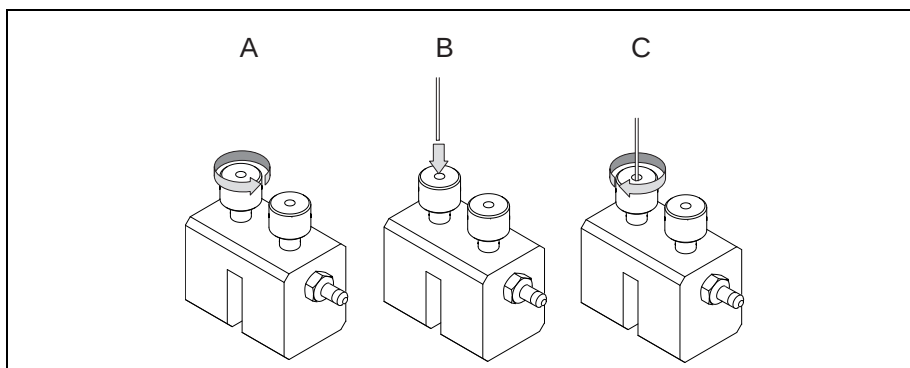

Figure 10-2. Leak Check
2. Carefully push the capillary column end into the **blind channel** of the column-flow meter connector as shown in Figure 10-2.